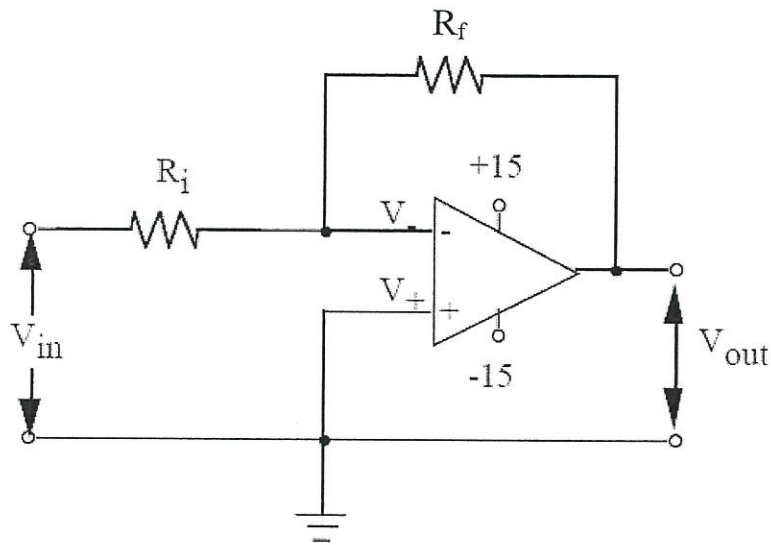

Figure Q2(a): Amplifier circuit
- (i) The amplifier circuit in **Figure Q2(a)** was proposed by a senior advisor to design an IoT sensor system. The engineer is uncertain what will the amplifier output gain be. He proposed to set input resistance, R_i around 50Ω and R_f to nearly $1M\Omega$. Formulate what will the voltage gain for this proposed amplifier.